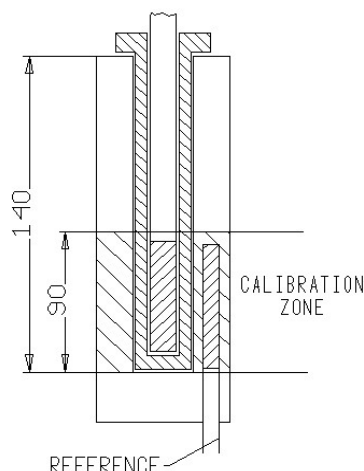

Fig.2
- Insert the probe up to the bottom of the block: the sensitive element is in the optimal calibration zone (figure 2)